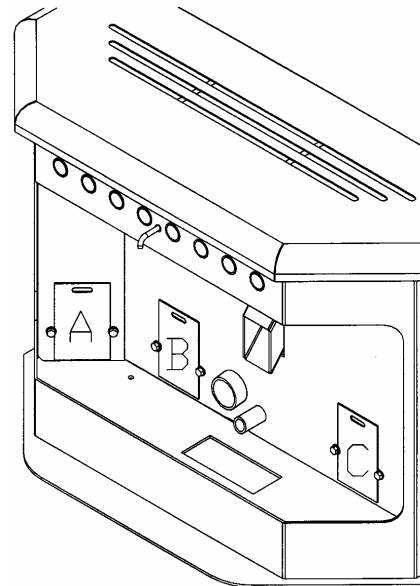

FIGURE 23
- Scrape ash in firebox into the pedestal ash bin through the opening in the bottom of the firebox (see Figure 23) or vacuum to remove ashes.
- Interior Chambers** – Three ash doors in the firebox in the P2000 can be removed for periodic cleaning (refer to figures 23 & 25). These doors allow access to the chamber surrounding the firebox.